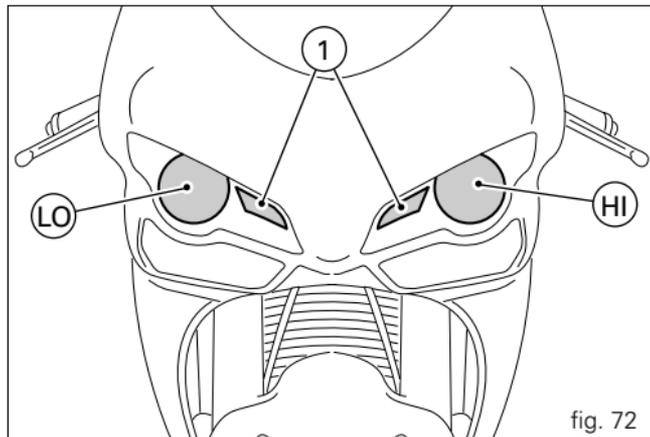

fig. 72
fig. 72 shows the position of the low beam (LO), high beam (HI) and side light (1) bulbs.